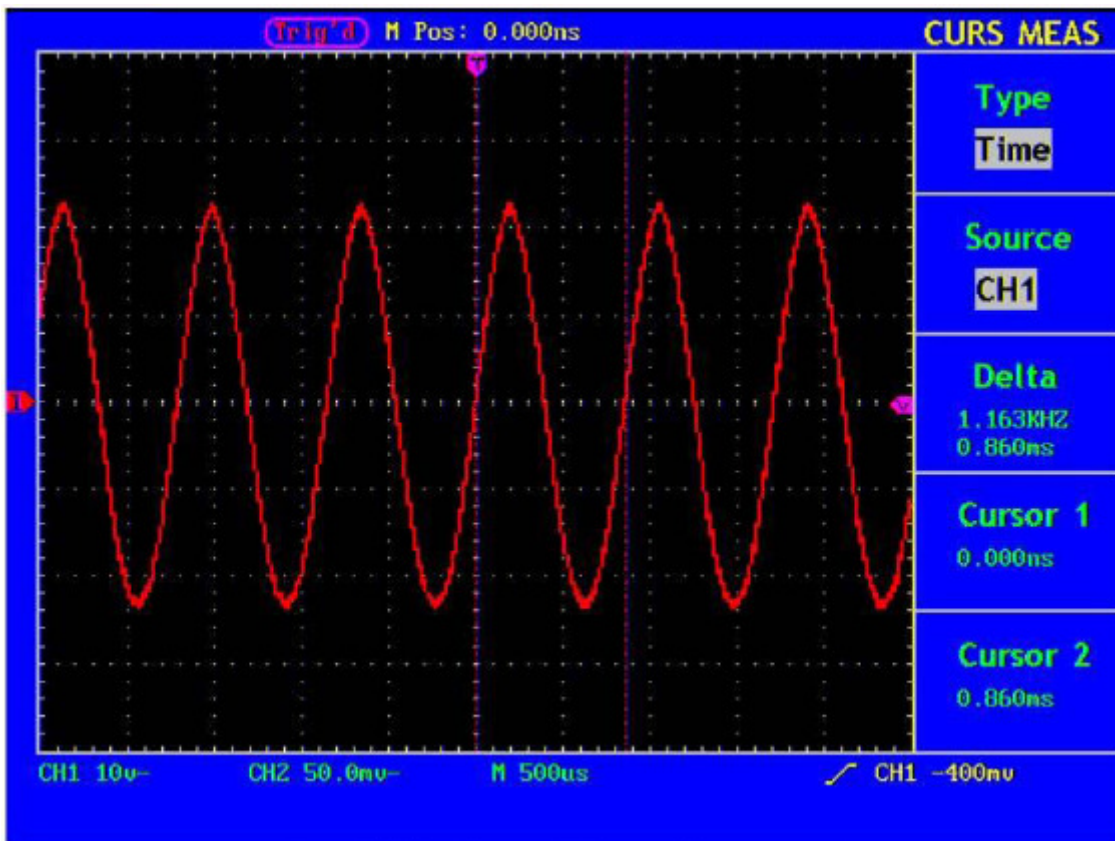

Fig. 57 Wave Form of Cursor Measurement
4. Adjust the positions of **CURSOR1** and **CURSOR2** according to the measured wave form, with the cycle and frequency of Cursor1 and Cursor 2 displayed in the increment window. The current position of Cursor1 is displayed in the Cursor1 window and that of Cursor2 is displayed in the Cursor2 window (see Fig. 57).